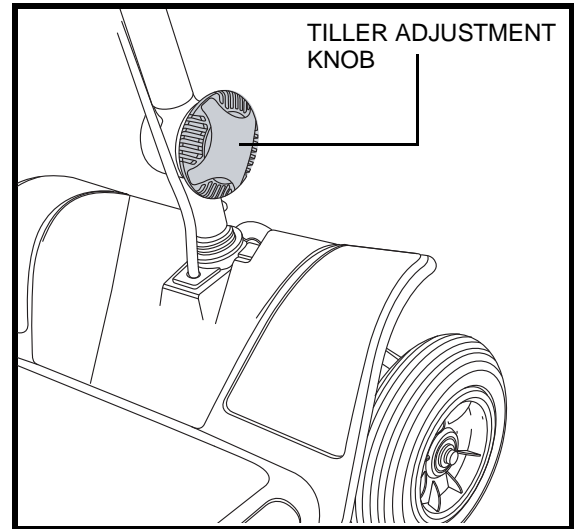

Figure 13. Tiller Adjustment Knob
1. While supporting the tiller, turn the tiller adjustment knob anticlockwise to loosen the tiller. **See figure 13.**